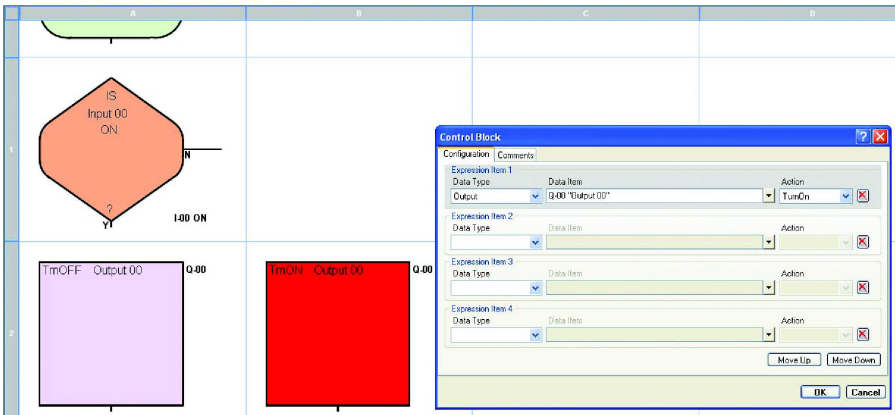

Figure 1-8 “Control Block” dialog box for cell B2
4. Enter data in the various fields in the dialog box as shown in Figure 1-8. Click the “OK” button when finished.